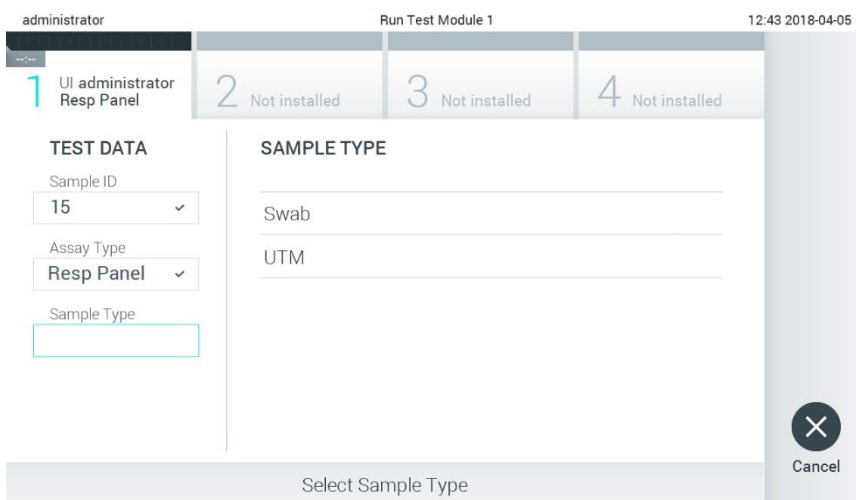

Figure 85. Selecting sample type.
5. The **Assay Type** field is automatically populated. If required, an appropriate **Sample Type** must be manually selected from the list (Figure 85).